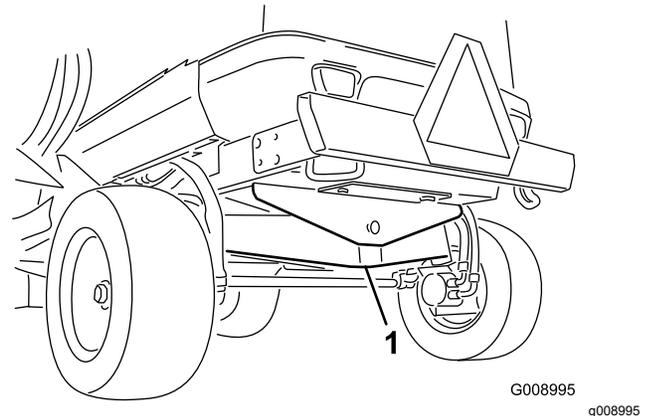

Figure 76
1. Front jacking point (2)
**Rear of the machine**—at the center of the axle (Figure 76)